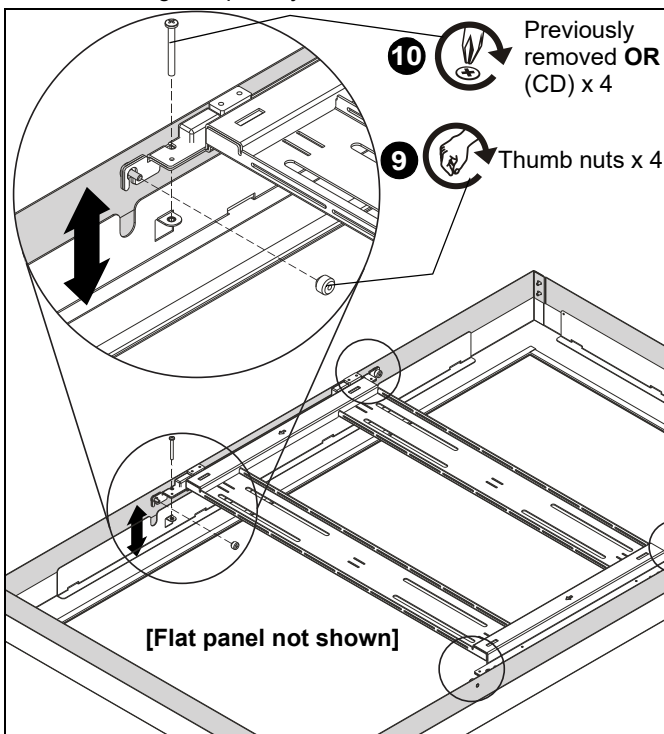

Figure 8
**NOTE:** The outer frame depth may be adjusted between 3" - 5" to make room for a variety of different flat panel thicknesses. (See Figure 8)
- The 4 Phillips screws removed in Step 1 can be replaced with four 10-24 x 2-3/4" Phillips screws (CD) for larger depth adjustments.
9. Tighten thumb nuts over threaded studs in four locations on the hinged frame. (See Figure 8)
10. Replace and fasten four Phillips screws which were removed in Step 1, **OR** replace the removed screws with four 10-24 x 2-3/4" Phillips head screws (CD) to allow for a larger depth adjustment of the outer frame. (See Figure 8)